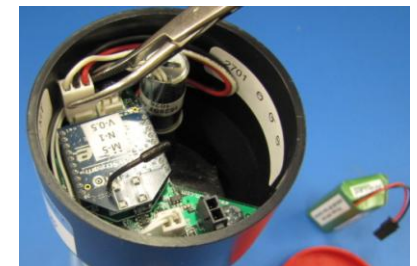

Figure 4
4. Disconnect the three-wire pressure sensor connector from the circuit board as shown in Figure 4.